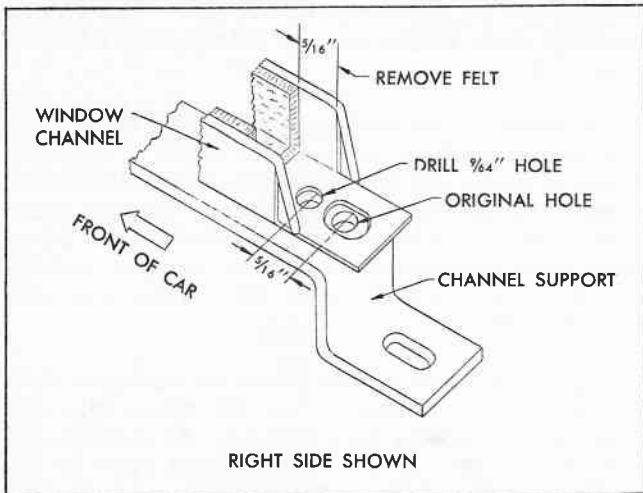

Fig. 42 Location of Sliding Window Bumper
3. Using a sharp tool, remove 5/16 inch length of felt from bottom and sides of rear end of rear quarter sliding window glass lower channel. See Fig. 42.
4. Drill a 9/64 inch hole 5/16 inch directly forward of original bumper attaching hole. See Fig. 42.